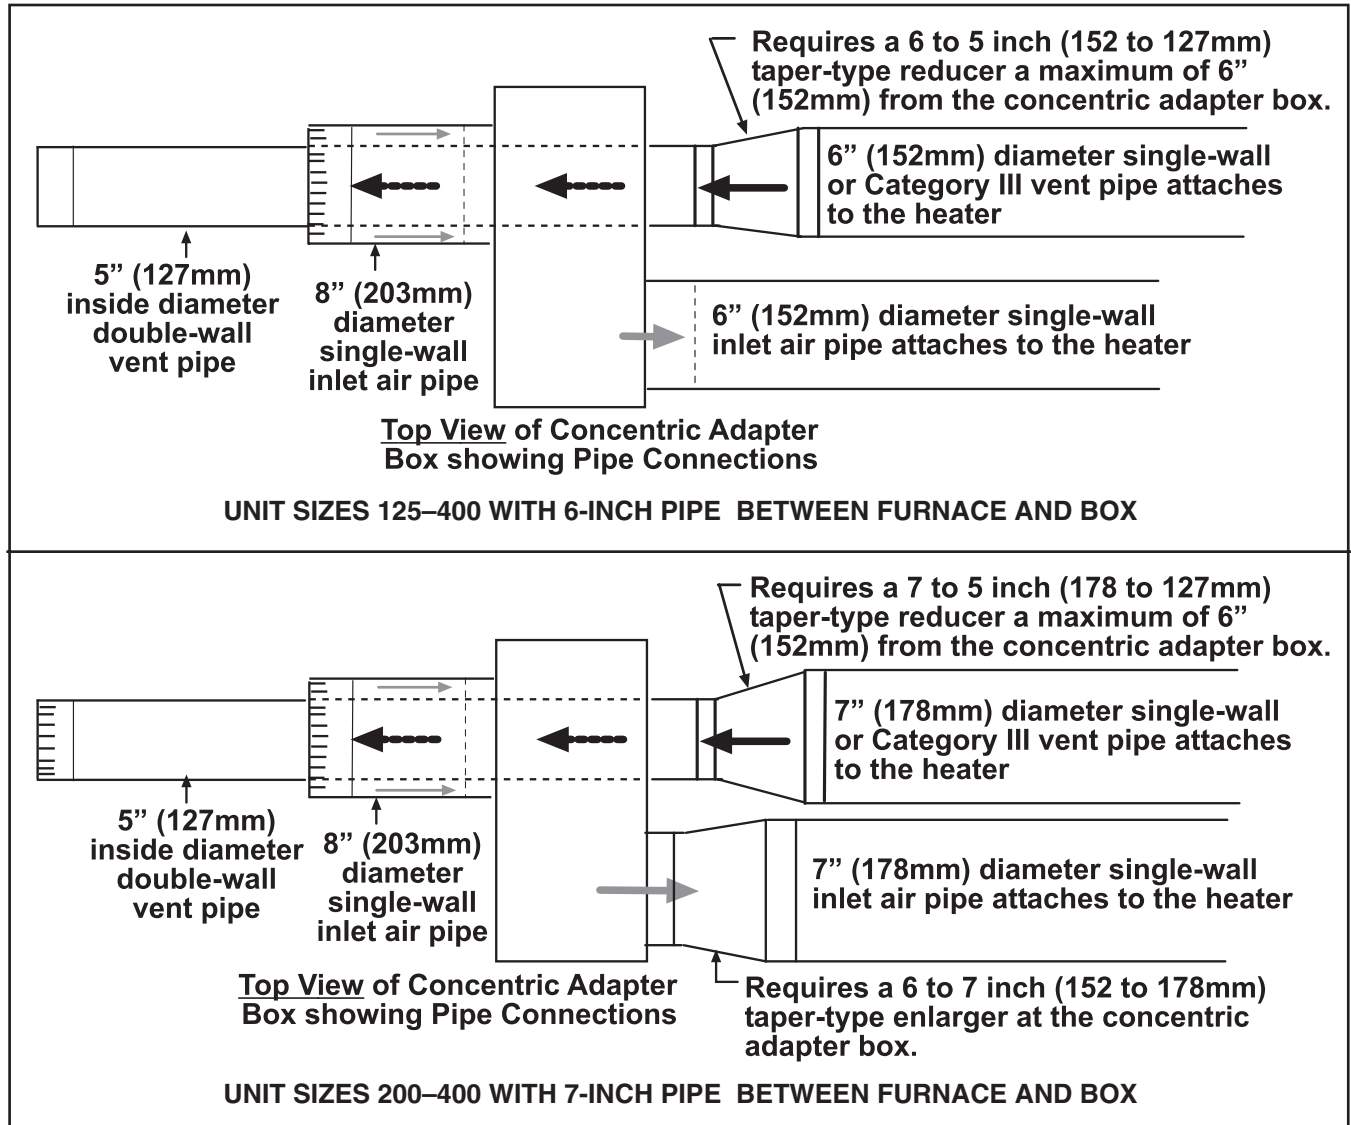

Figure 10. Concentric Adapter Box Connections
When pipe diameters differ, depending on direction of airflow, join the pipes with either a tapered reducer or enlarger as shown in Figure 10.
- a. Secure single-wall combustion air pipe run to collar on concentric adapter box using sheet metal screws. If using 7-inch piping (unit sizes 200–400), install tapered enlarger as shown in Figure 10.